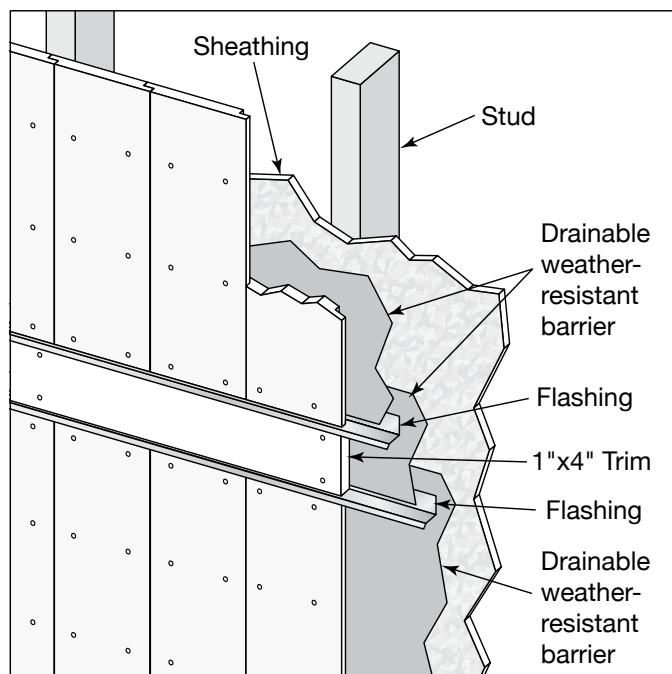

Fig. 6
- In situations where the height of the home requires more than one piece of siding installed vertically, create a "belly band" trim joint with a piece of 1"x4", 1"x6" or 1"x8" trim (depending on preference) and z-flashing above and below (**Fig. 6**).